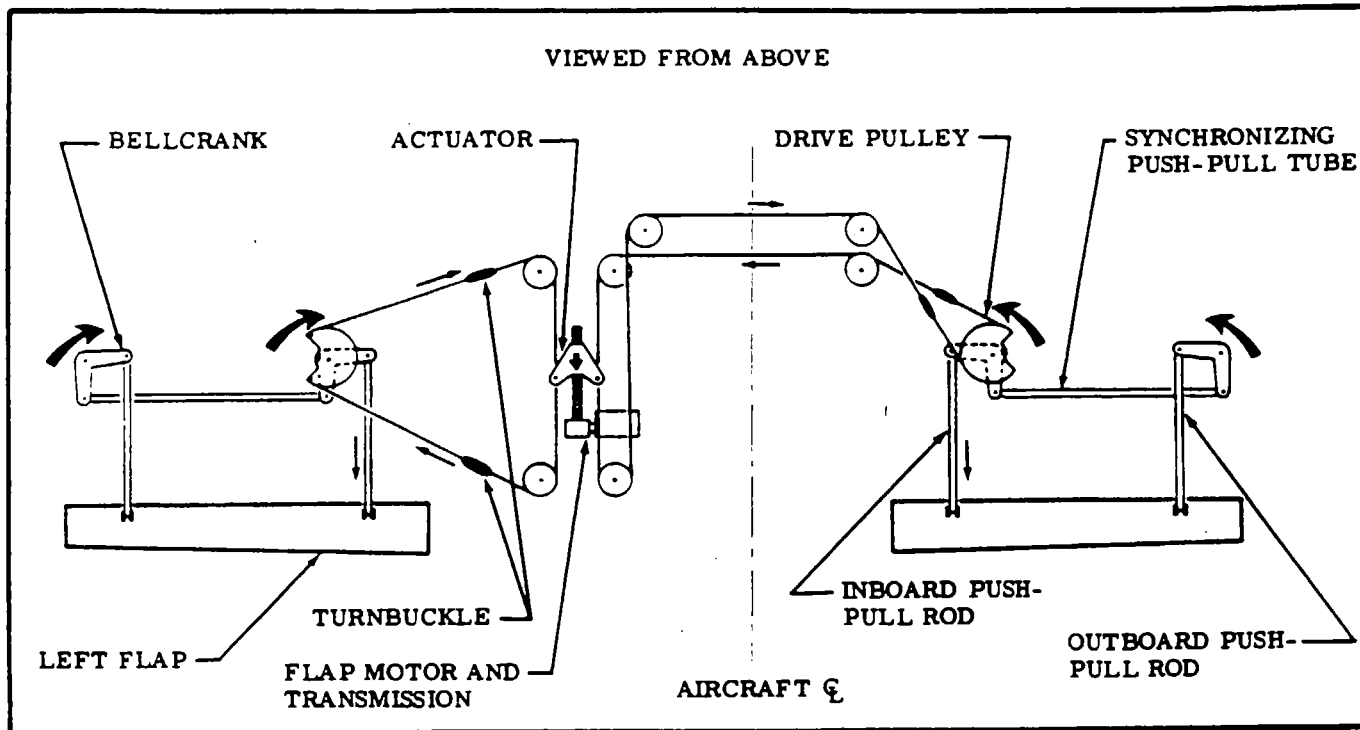

Figure 7-3. Flap System Schematic
- c. Disconnect push-pull rods (17) at drive pulleys (11).
- d. Disconnect push-pull rods (23) at bellcranks (21).
- e. Disconnect synchronizing push-pull tubes (13) from drive pulleys (11) and bellcranks (21).
- f. If cables are being replaced with drive pulleys (11) installed, rotate drive pulleys beyond their normal range of travel to permit cable attachment. If drive pulleys are not installed, it may be easier to attach the cables prior to installing the drive pulleys in the wings.
- f. Attach the 1/8" direct cable to the forward side of the drive pulleys and the 3/32" retract cable to the aft side of drive pulleys. (Refer to figure 7-3.)
- h. Adjust synchronizing push-pull tubes (13) to 41.87" between centers of rod end holes, tighten jam nuts and install.
- i. Adjust inboard push-pull rods (17) to 10.81" and outboard push-pull rods (23) to 10.39" between centers of rod end holes, tighten jam nuts and install. These dimensions may vary in order to obtain snug fitting of flap in "UP" position.